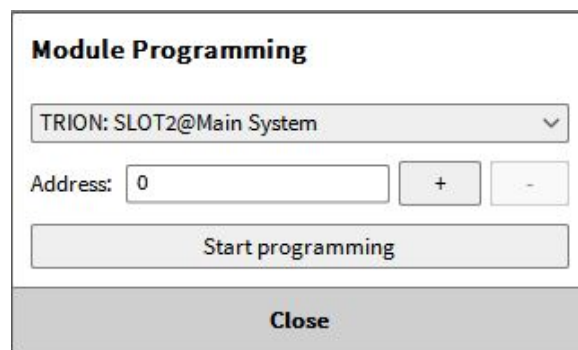

Fig. 4.41: Module programming UI
- Select the proper Serial Port and click on *Start programming* (see Fig. 4.41). If the modules are connected to several serial ports, the Programming must be repeated for each serial port. The